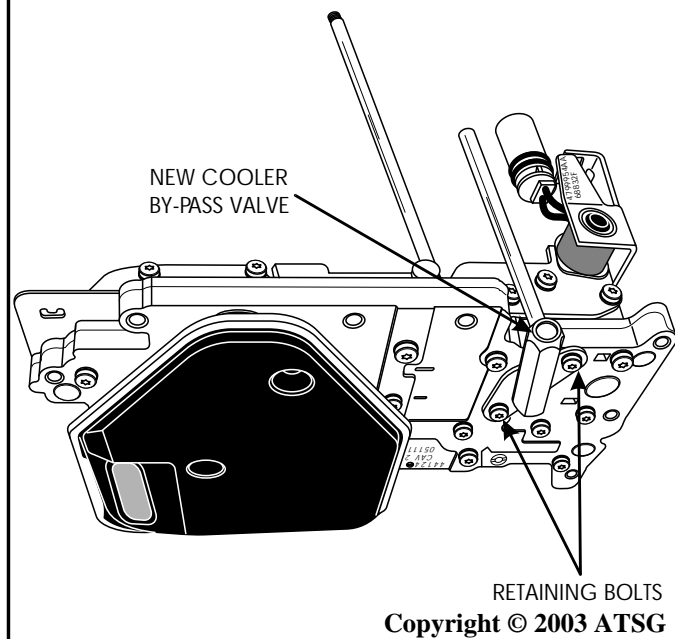

Figure 94
5. If you have a mid 1999 or later model, there will be an added cooler by-pass valve assembly on the valve body, as shown in Figure 94, that must also be removed.
The Chrysler 31TH (A670) transaxle has been revised to include a cooler by-pass system and was changed during the 1999 model year as a running change (See Figure 94).
The transfer plate has a drilled through hole and a pocket to accept the by-pass valve seal, and two added screw holes to accommodate the added cooler by-pass valve assembly (See Figure 94).
The by-pass valve assembly consists of a spring loaded ball inside of a body/tube that is attached to the transfer plate with two new screws and inserted into the new case lube circuit hole, as shown in Figures 94 and 95.